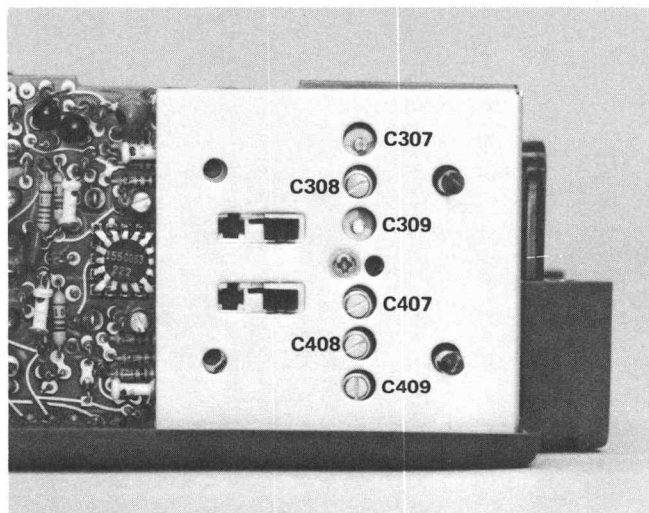

Fig. 4-4. Location of attenuator compensation capacitors.
f. ADJUST—C407 (see Fig. 4-4) for no more than +0.2 division, -0.1 division, or a total of 0.2 division of aberration. (Use a low-capacitance screwdriver.)
i. ADJUST—C408 (see Fig. 4-4) for no more than +0.2 division, -0.1 division, or a total of 0.2 division of aberration.
l. ADJUST—C409 (see Fig. 4-4) for no more than +0.2 division, -0.1 division, or a total of 0.2 division of aberration.
f. ADJUST—C307 (see Fig. 4-4) for no more than +0.2 division, -0.1 division, or a total of 0.2 division of aberration.
i. ADJUST—C308 (see Fig. 4-4) for no more than +0.2 division, -0.1 division, or a total of 0.2 division of aberration.
l. ADJUST—C309 (see Fig. 4-4) for no more than +0.2 division, -0.1 division, or a total of 0.2 division of aberration.